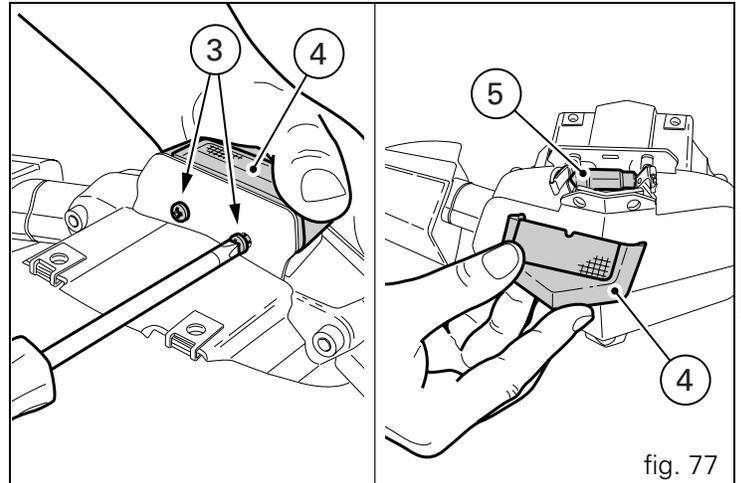

fig. 77
Unscrew the two self-tapping screws (3) securing the shell (4) and the number plate light lens. Remove the shell and the lens and change the number plate light bulb (5) (fig. 77).